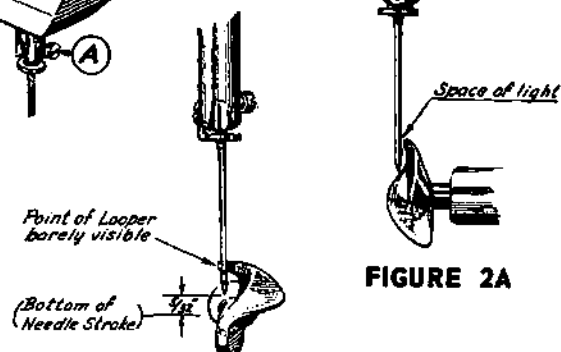

FIGURE 2
- 3 Turn the machine by hand, rotating the Loper counterclockwise, thus raising the Needle $\frac{5}{32}$ of an inch from the bottom of its stroke as shown in Figure 2.
At this time, the point of the Loper should be barely visible on the left side of the Needle as shown in Figure 2. To adjust, loosen Screws C (Figure 3) and rotate Knurled Loper Holder desired amount in either direction. Tighten Screws C securely.